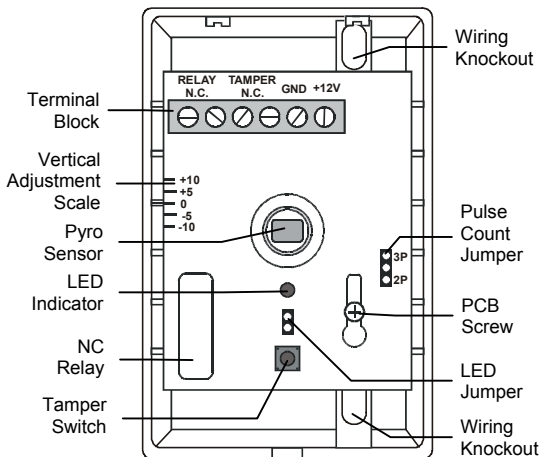

Figure 1: Quest (cover off)
6. Connect the wires to the terminal block – see Figure 1.